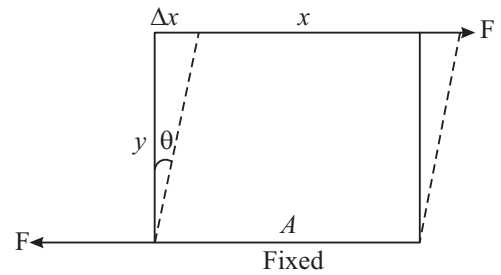

Fig. 8.8 : Shearing strain
- (i) **Shearing strain:** When the deforming forces are tangential (Fig 8.8), the shearing strain is given by the angle  $\theta$  through which a line perpendicular to the fixed plane is turned due to deformation. (The angle  $\theta$  is usually very small.) Then we can write